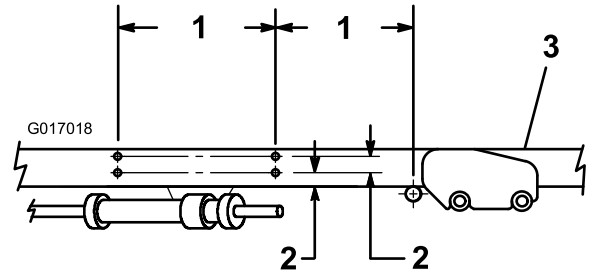

Figure 4
3. Refer to the dimensions shown in Figure 4 to locate, mark, and drill 4 holes (9/32 inch or 7 mm diameter) into the right-hand frame tube.